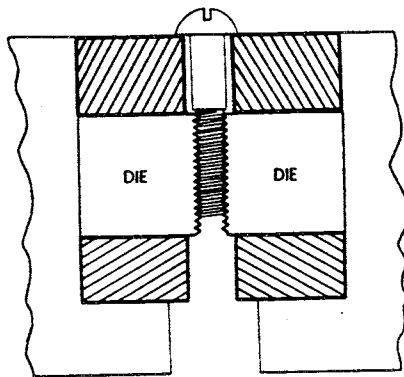

FIG. 36
- To roll threads with a space between the head and the thread (Fig. 36). A filler block is placed on top of the die that is equal to the unthreaded space between a head or shoulder and the thread. Other filler blocks, if needed, are placed under the die to bring the top filler block level with the top of the die pocket and the feeding mechanism.